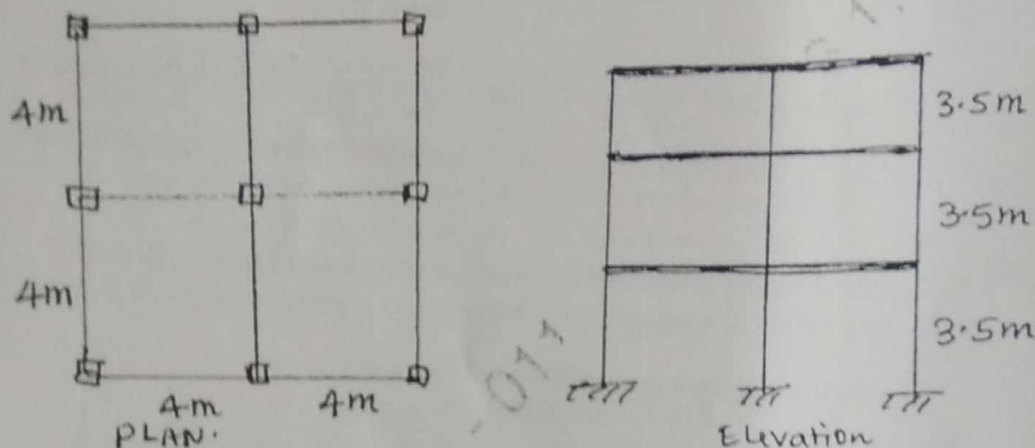

Fig. Q5(b)
- b. The plan and elevation of a three - storey RCC school building is shown in Fig. Q5(b). The building is located in seismic zone V. The type of soil encountered is medium stiff and is proposed to design the building with a special moment resisting frame. The intensity of dead load is  $10 \text{ kN/m}^2$  and the floors are to cater with an imposed load of  $3 \text{ kN/m}^2$ . Determine the design seismic loads on the structure by static analysis. Refer Fig. 5(b). (15 Marks)